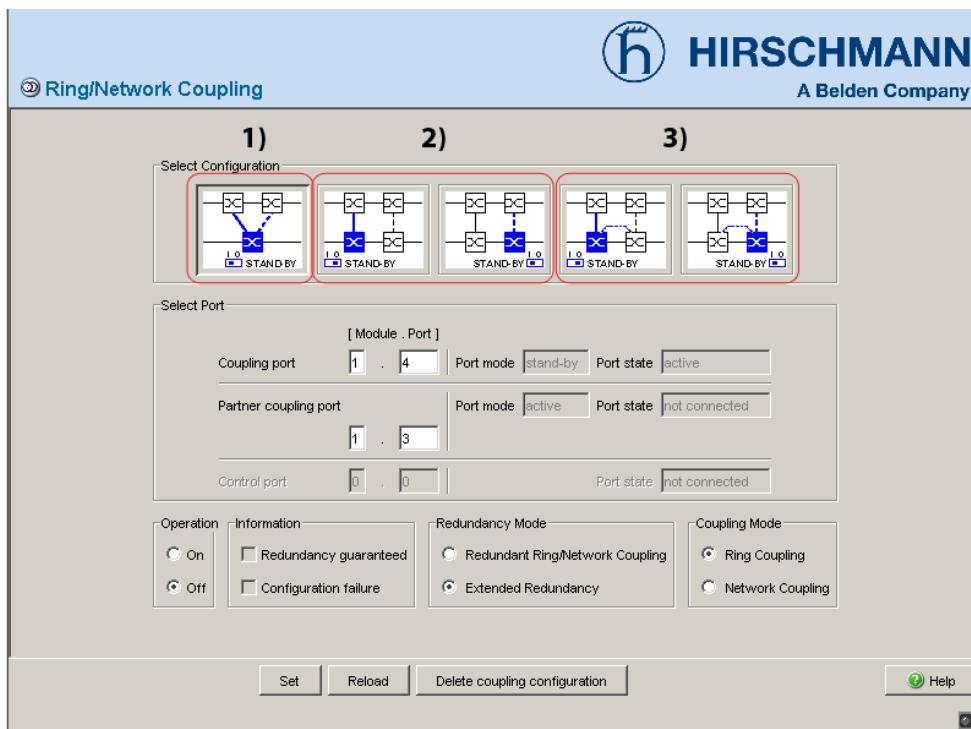

Figure 6: Selecting the configuration
- You first select the configuration you want: One-Switch coupling (“1”), two-Switch coupling (“2”) or two-Switch coupling with control line (“3”), (see fig. 6).